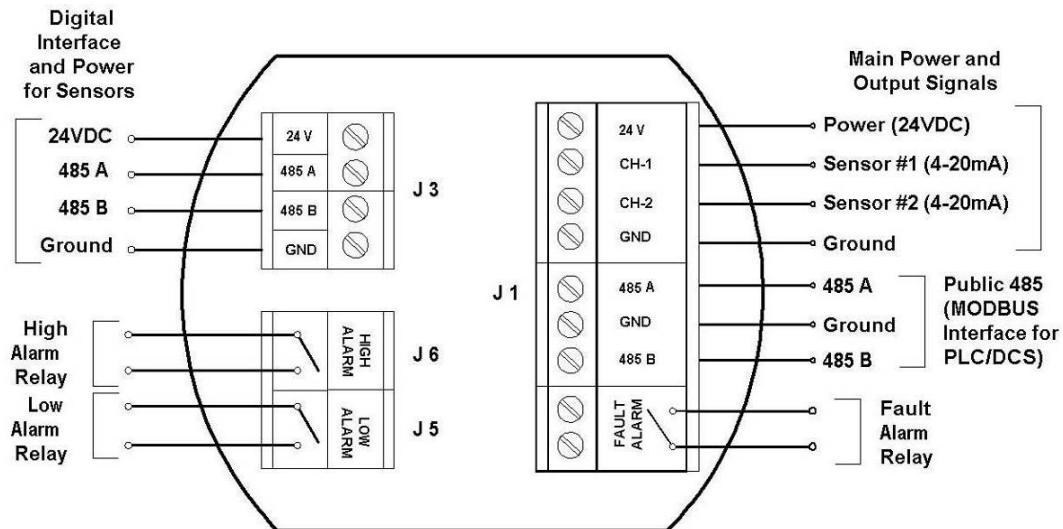
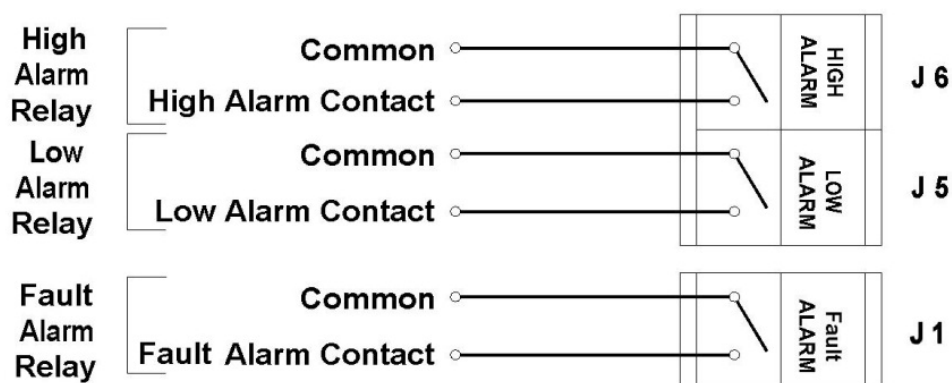

Figure 2-4 Electronics Module for **iTRANS-2** (Main Unit)
Figure 4-1 Alarm Relay Connectors J6, J5 and J1
The electronics module of the iTRANS-2 gas monitor contains connectors and jumpers for wiring and configuring the device. The electronics module for a main iTRANS-2 unit is shown in Figure 2-4. The electronics module for a remote unit is shown in
To connect the **iTRANS-2** control wires to the three relay terminals on the relay board, wire the unit to the connectors shown in Figure 2-4. The low alarm relay is activated when the low alarm threshold is met. This is a non-latching, Normally Open (NO) contact. The high alarm relay is activated when the high alarm threshold is met. This is a non-latching, Normally Open (NO) contact. The fault alarm relay is activated upon power-up of the **iTRANS-2**. When the fault condition is met, the circuit opens. This is an Electronically closed (NC) contact. See Figure 4-1 for relay wiring.